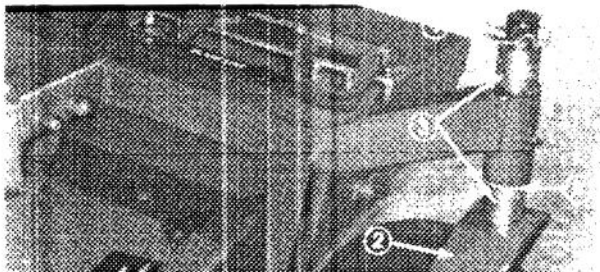

Figure 14
2. Squeeze back of wire and rotate wire on lynch pin. Pull pin out of caster spindle. Slide spacers onto the caster spindle to get desired height-of-cut (Fig. 14 and 15). Then slide washer (Fig. 14 and 15) onto spindle.
3. Push caster spindle through caster arm. Slide any remaining spacers onto spindle (Fig. 14 and 15). Install lynch pin to retain parts in place.